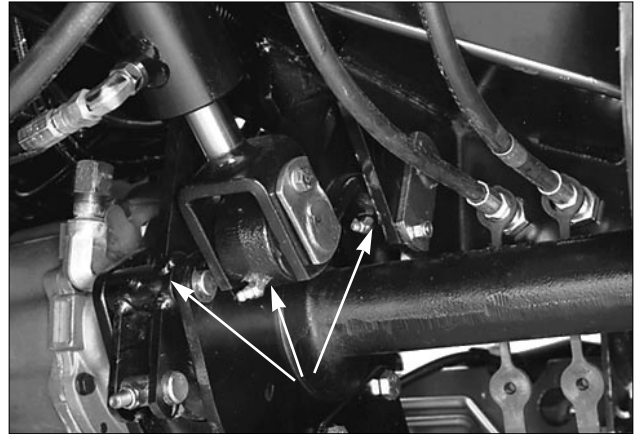
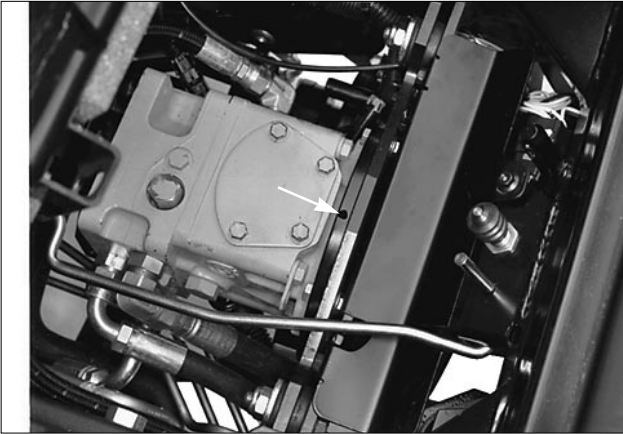

Figure 21
Figure 24
Greasing (Fig. 21–33)
The grease fittings that must be lubricated are: Lift arm pivot (2), lift cylinder (2), brake arm pivots (2) (Fig. 21); brake pivot (1), brake pivots (2) (Fig. 22); traction pedal pivot (1) (Fig. 23); engine to pump drive shaft (2) (Fig. 24 & 25); traction adjuster (1) (Fig. 26); P.T.O. Bearing (Fig. 27).